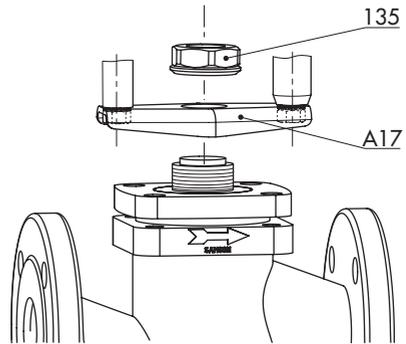
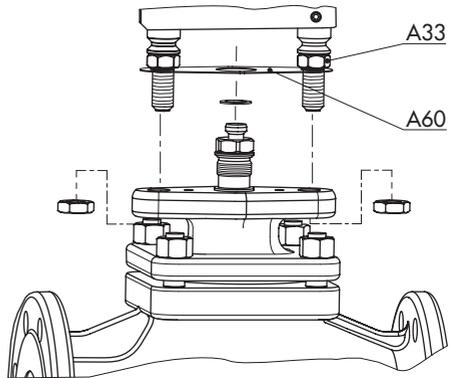

Fig. 5-2: Mounting using crossbeam and central nut (form B attachment)
Fig. 5-3: Mounting using rods (form C attachment)
**Legend for Fig. 5-2 and Fig. 5-3**
When the actuator is mounted using rods (form C, Fig. 5-3), the actuator is connected to the valve bonnet using rods. In this case, a crossbeam is not required for mounting the actuator. A plate keeps the correct distance between rods.